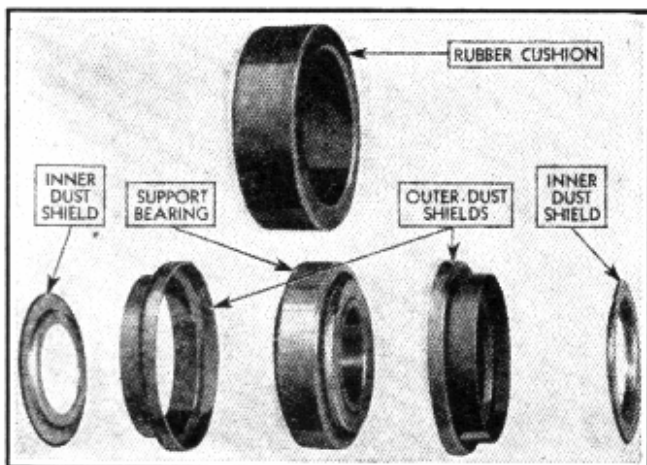

Fig. 50—Layout of Intermediate Support Bearing Parts
12. Tap the dust shields off the outer race of the bearing. Fig. 50 shows a layout of the parts making up the intermediate support bearing assembly.
2. Place one of the inner dust shields on the shaft with the offset in the shield away from the bearing as shown in Fig. 50. Drive the bearing on the shaft using the universal joint yoke as a driver. Then install the other inner dust shield on the shaft with the offset away from the bearing.